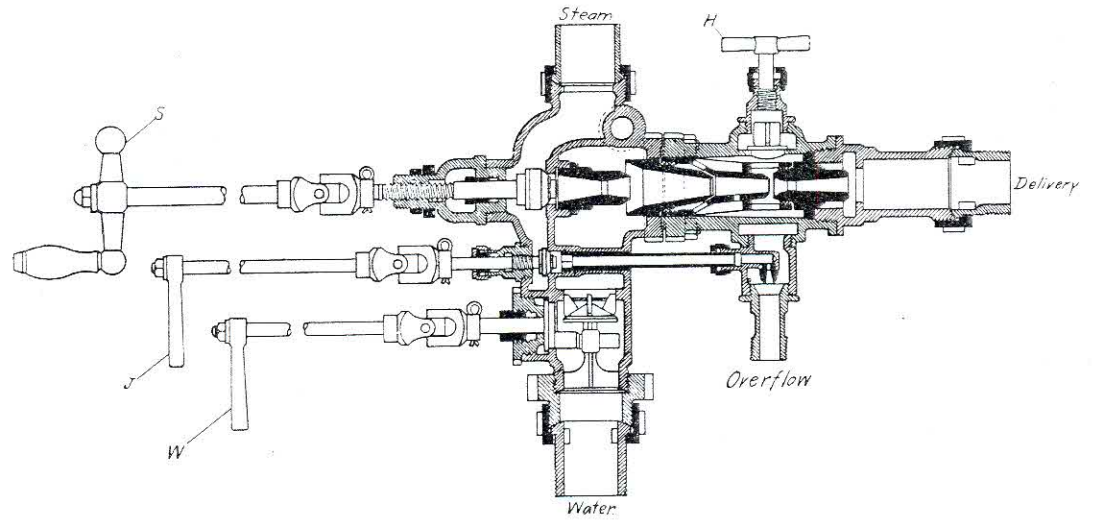

Fig. 3.
43. Method of operating locomotive Momi-tor lifting injectors as shown in Figure 3: